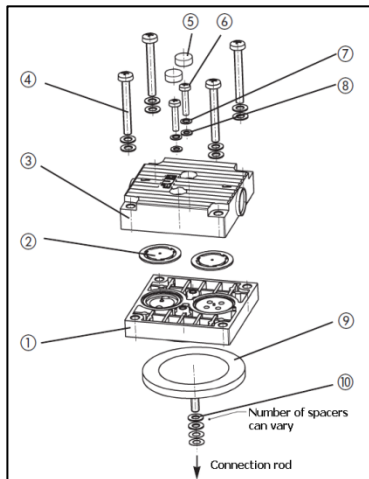

Fig. 20: N 816 K_
**According to Fig. 20
*According to Fig. 20